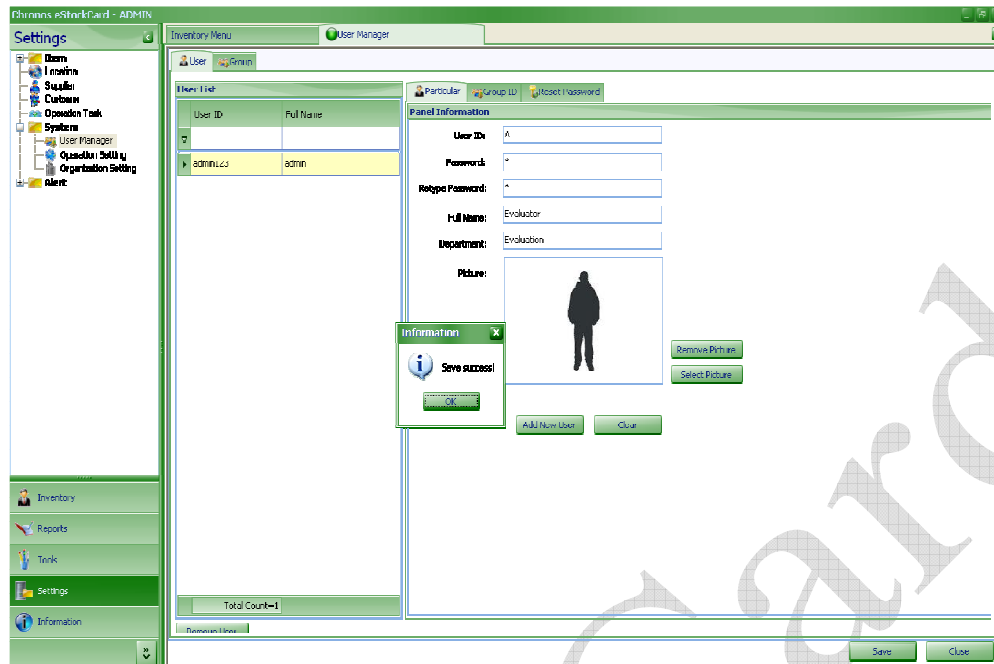

Fig. 7
Step 4 Click “Add New User” & “Save”. New user with User ID = “A” with Full Name = “Evaluator” was created and saved (Fig.7)